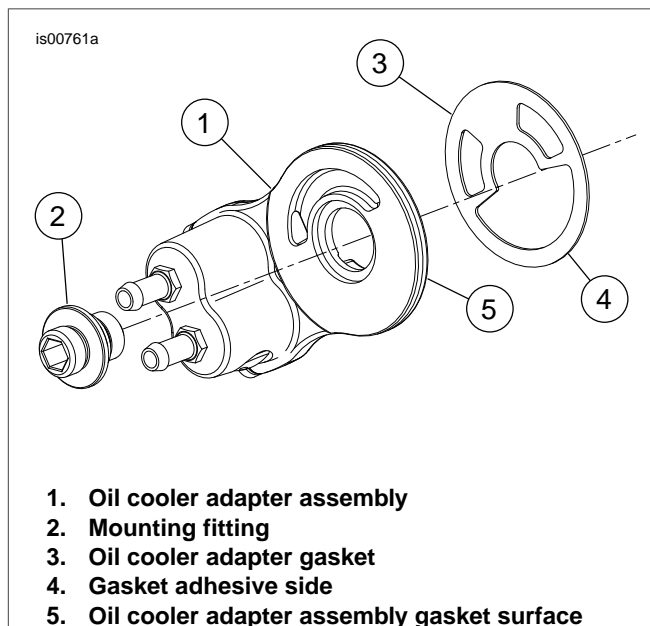

Figure 2. Install Oil Adapter
2. See Figure 2. Install the oil adapter gasket (3) onto the oil filter adapter assembly (1). The oil adapter assembly flanges should be aligned so they are installed into the oil adapter gasket cutout as shown.
- See Figure 2. **If your kit contains a gasket with a "light-colored backing"**: Peel backing off of gasket (4) and apply adhesive side to oil cooler adapter gasket surface (5). Verify that gasket is centered on adapter assembly. Verify that adapter locates properly in the mounting surface. Verify that raised lip of the mounting fitting faces the adapter assembly. Tighten mounting fitting to 12-16 ft-lbs (16.3-21.7 Nm).
See Figure 2. **If your kit contains a standard gasket without a "light-colored backing"**: Install the oil cooler adapter assembly and gasket onto the oil filter mounting surface of the engine with the mounting fitting (2). Verify that adapter locates properly in the mounting surface. Verify that raised lip of the mounting fitting faces the adapter assembly. Tighten mounting fitting to 12-16 ft-lbs (16.3-21.7 Nm).